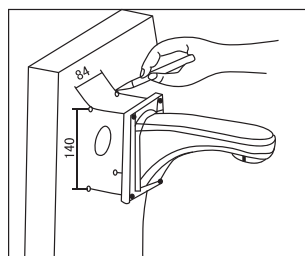

Fig 2
a. As shown in fig 2, use the installation holes of the wall hanging bracket as a pattern and mark the locations of the holes on the wall.